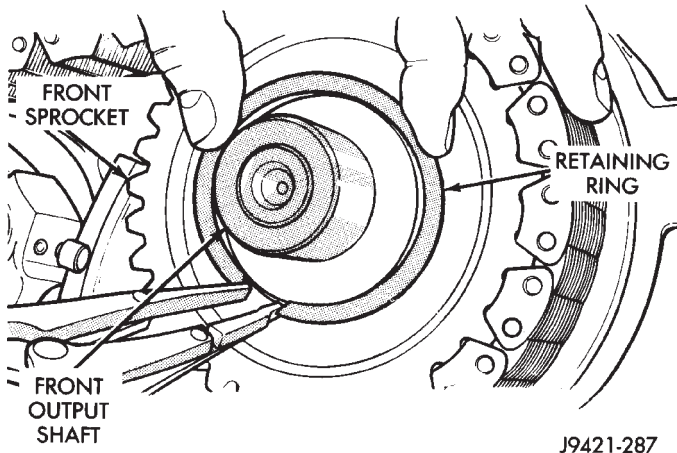

Fig. 28 Removing Front Sprocket Retaining Ring
- (9) Remove front sprocket retaining ring (Fig. 28).